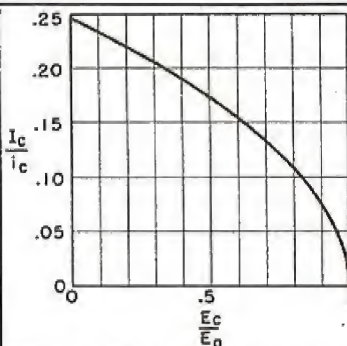

Figure 4. Curve from which ratio of $\frac{I_c}{I_c}$ is obtained.
To get the dc grid current, I_c , we first have to calculate $\frac{E_c}{e_g}$ the ratio of the grid bias to the peak rf driving voltage and then from Figure 4 get $\frac{I_c}{I_b}$ the ratio of average grid current to the instantaneous grid current at $E_c = E_b$. The instantaneous grid current is obtained from the characteristic curves.
Then, the average grid current, $I_c = I_c \times (\text{ratio } \frac{I_c}{I_b} \text{ from Figure 4}), \text{ (amperes)} \quad (5)$
From Figure 4, $\frac{I_c}{I_b} = 0.175$